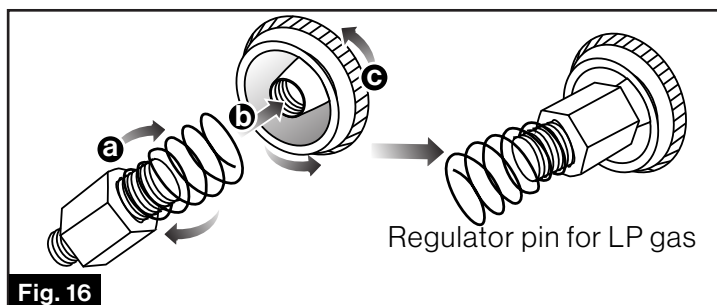

Fig. 16
- To convert gas supply from NG to LP gas, reverse the retainer pin and spring, and put back tightly into the regulator cap by clockwise. (Fig. 16)